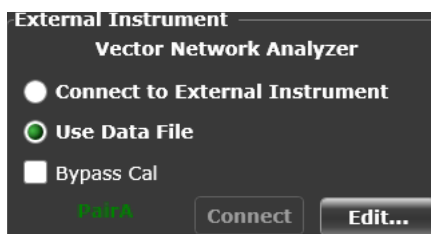

Figure 45 VNA Pair information after the Test App detects the data file
- 15 Once the 10GBASE-T Ethernet Test Application detects the user file, it is indicated on the **Set Up** tab as shown in Figure 45.